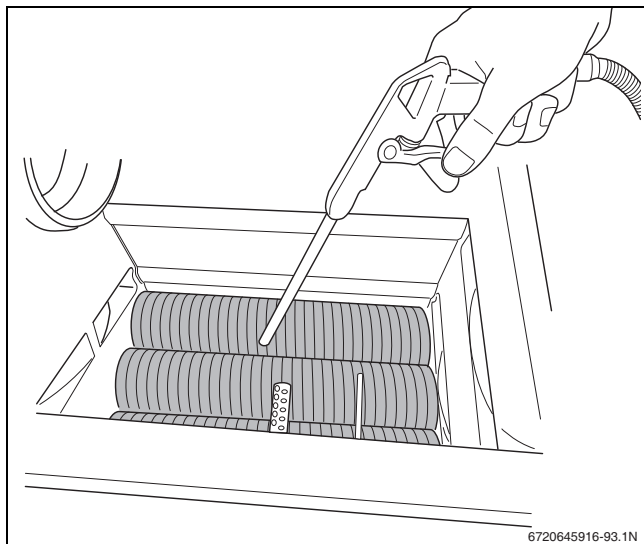

Fig. 95 Cleaning the heat exchanger
- Clean the heat exchanger with compressed air or a soft brush (→ fig. 95).